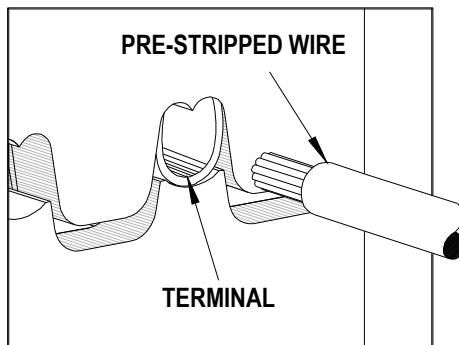

Figure 4
2. Place a pre-stripped wire into the terminal and align the wire with the conductor and insulation grips visually. See Figure 4 and 5.